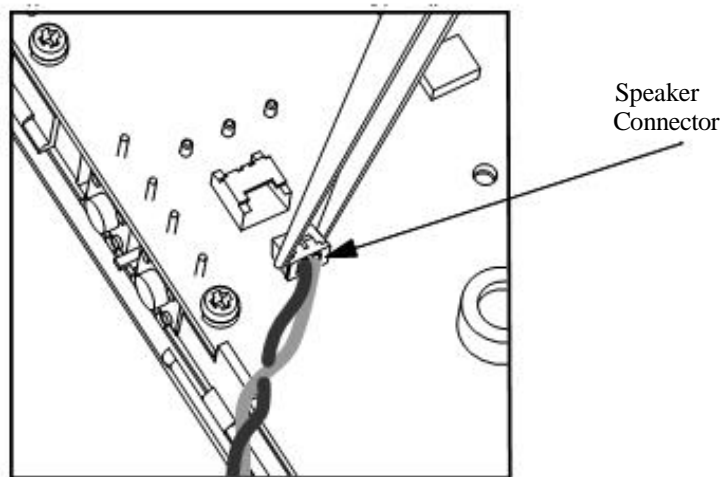

Figure 2-4
9. Remove the speaker connector, which connects between the PC Board and the internal speaker on front cover (see “Figure 2-4”).